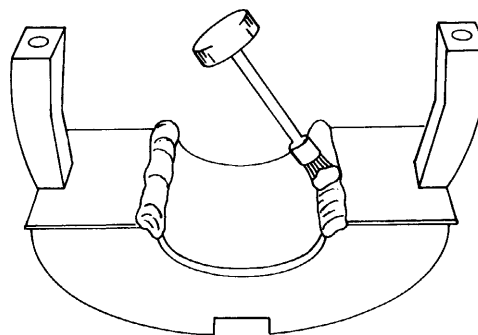

FIGURE 14 - APPLYING "C" CEMENT TO END PLATE HALF
6.12 Before applying the end plate halves to the cable, apply "C" cement 1/2" (38 mm) wide adjustment to the hole and 1/2" (38 mm) wide into the hole for the total width of the end plate. (Figure 14)